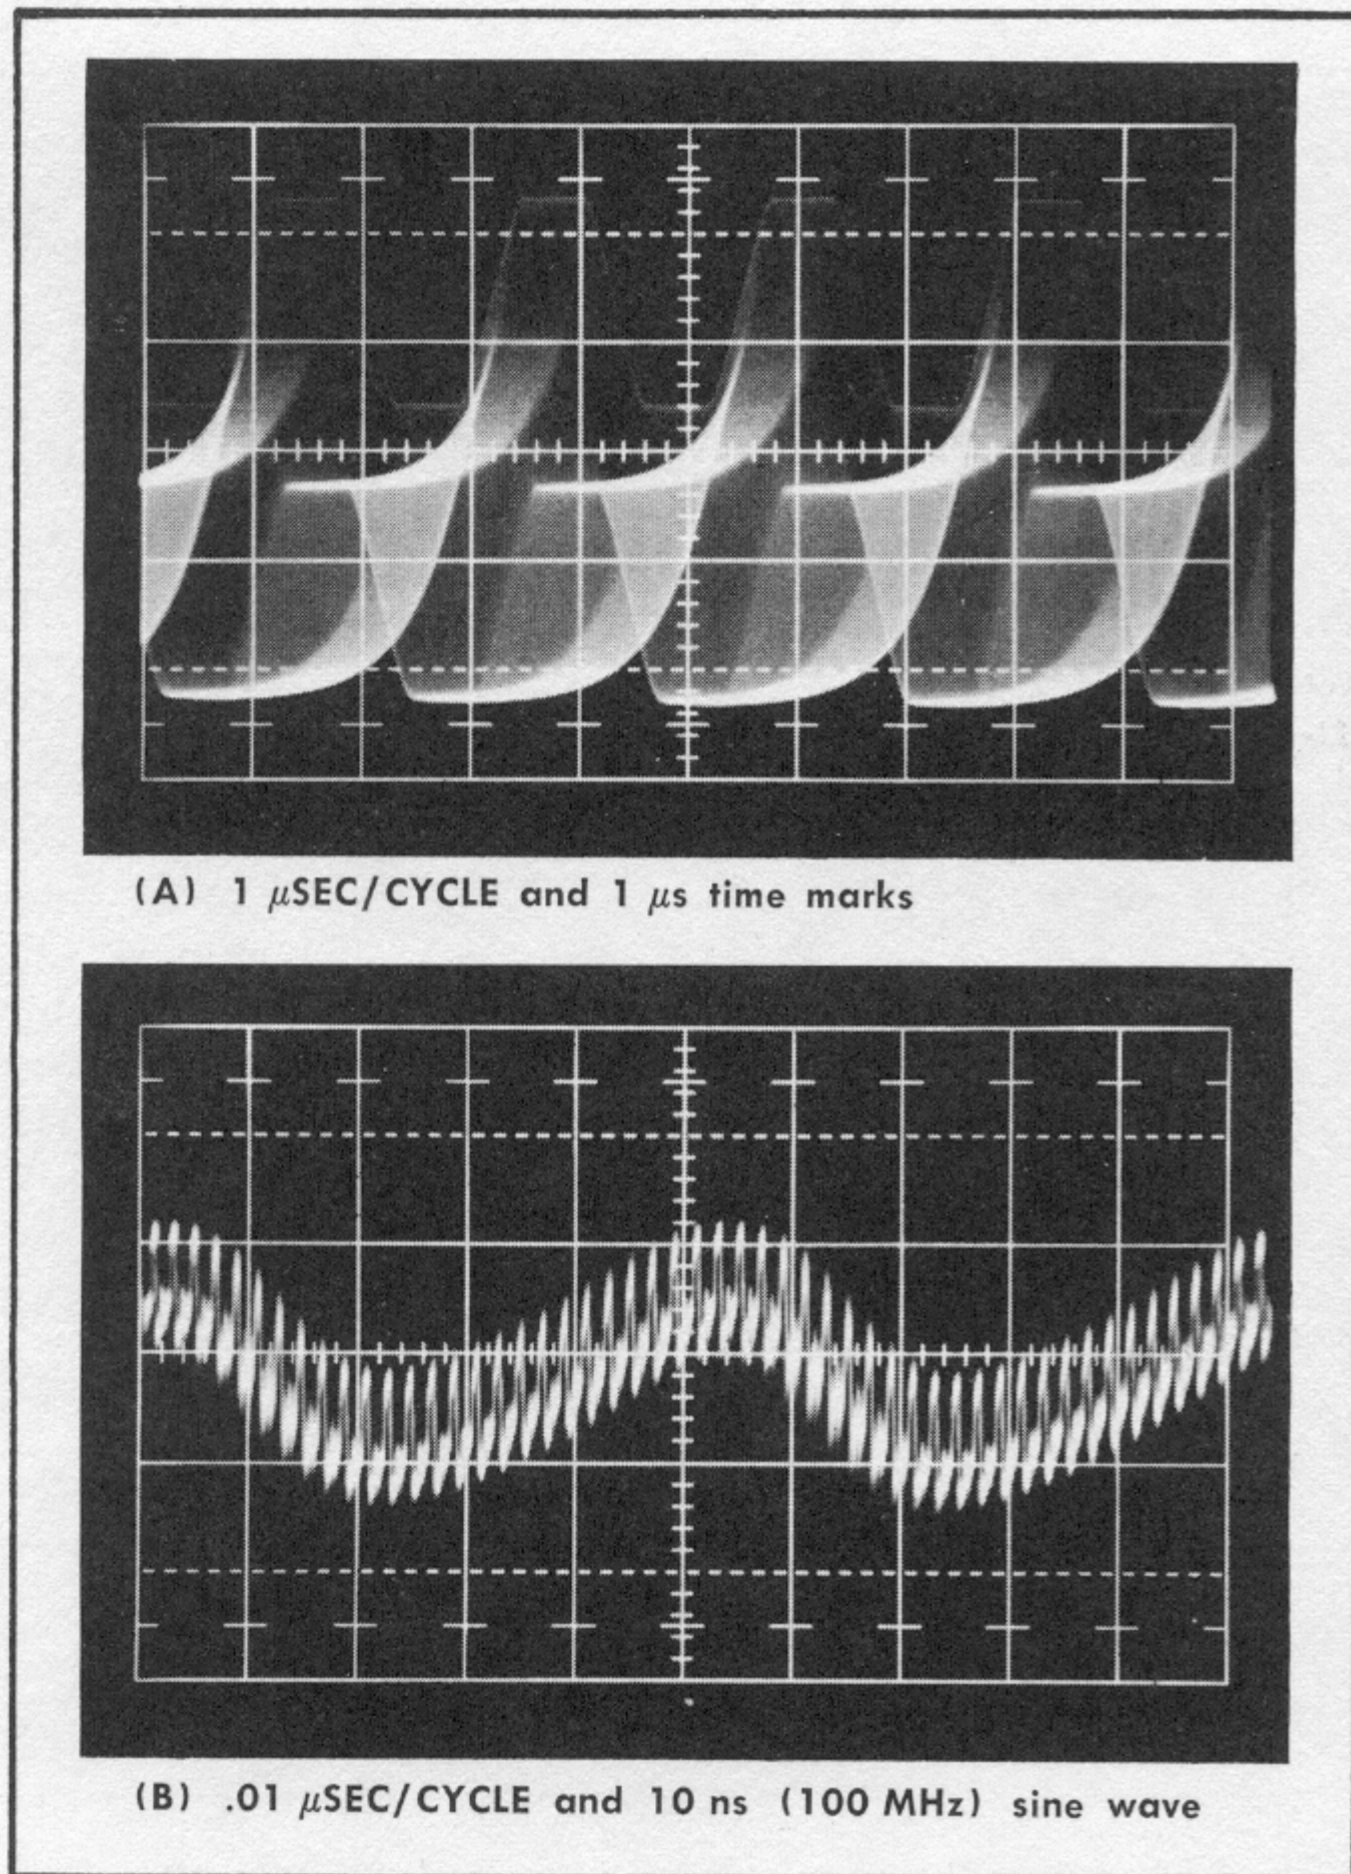

Fig. 6-35. Typical test oscilloscope displays of beat frequency discussed in step 27.
- b. Internally trigger the test oscilloscope on the beat frequency display, see Fig. 6-35.